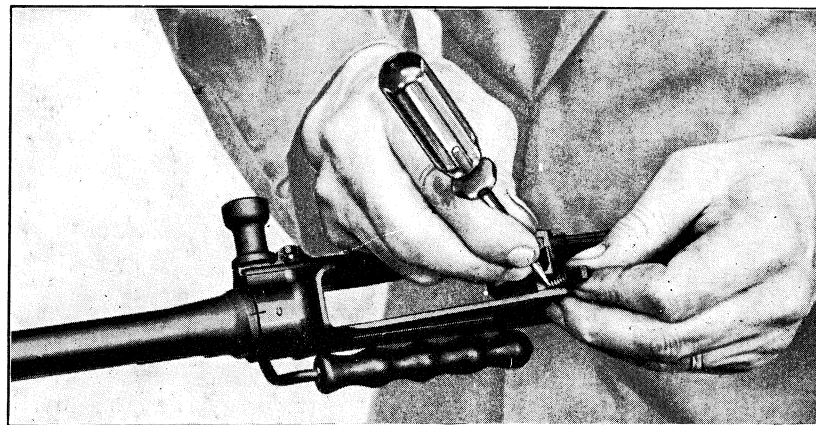

Fig.82
a) **Magazine catch.** — Using a screwdriver blade, compress the magazine catch spring while pulling the magazine catch (fig. 82).